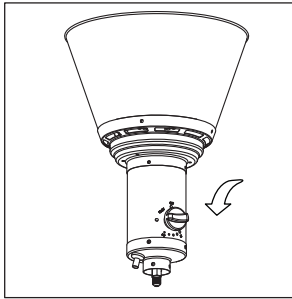

Figure 2
- Push in control knob and turn counterclockwise to "PILOT" (Figure 2).